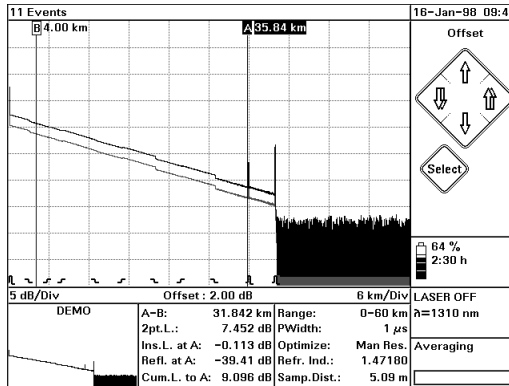

Figure 45 Two traces on the same picture
- Show second trace** 4 Make a second trace, as in step 1. You now see two traces (Figure 45)